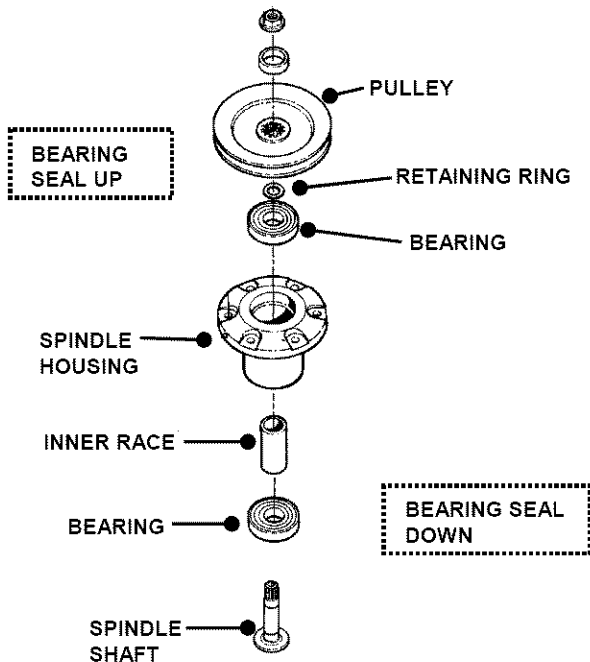

FIGURE 7.8
4. Top and bottom bearings are now removable. Pull out on inner race to slide bearing from housing. See Figure 7.8.